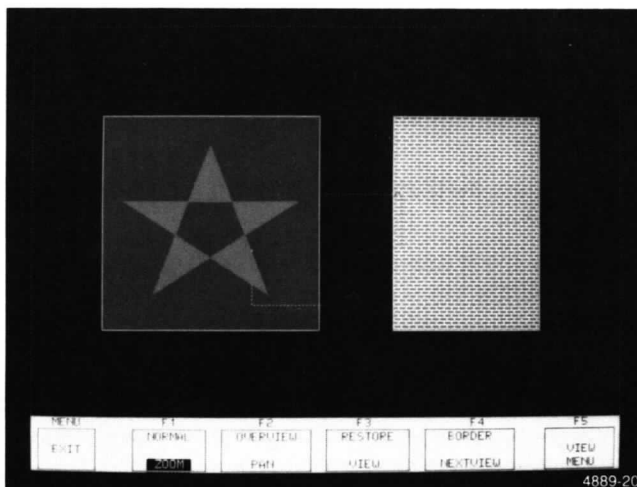

Figure 3-15. Viewing Keys Menu.
2. Press Menu, then press F2: ZOOM/PAN. This puts the terminal in Framing mode and displays the viewing keys menu, shown in Figure 3-15. This menu shows the functions of F1 through F5 (at the bottom of each box) and their shifted versions (at the top of each box).